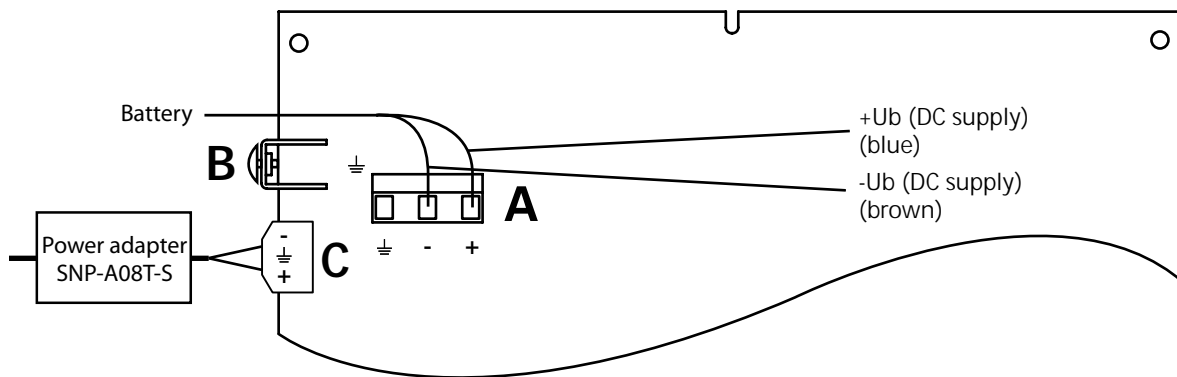

Fig. 2.175 Redundant power feeding with battery and power adapter SNP-A08T-S
- Variant 1 with Variant 2 (Battery and power adapter SNP-A08T-S) (Fig. 2.175)
- Variant 1 with Variant 3 (Battery cable to terminal block (A) und battery cable C107-A124-C734)